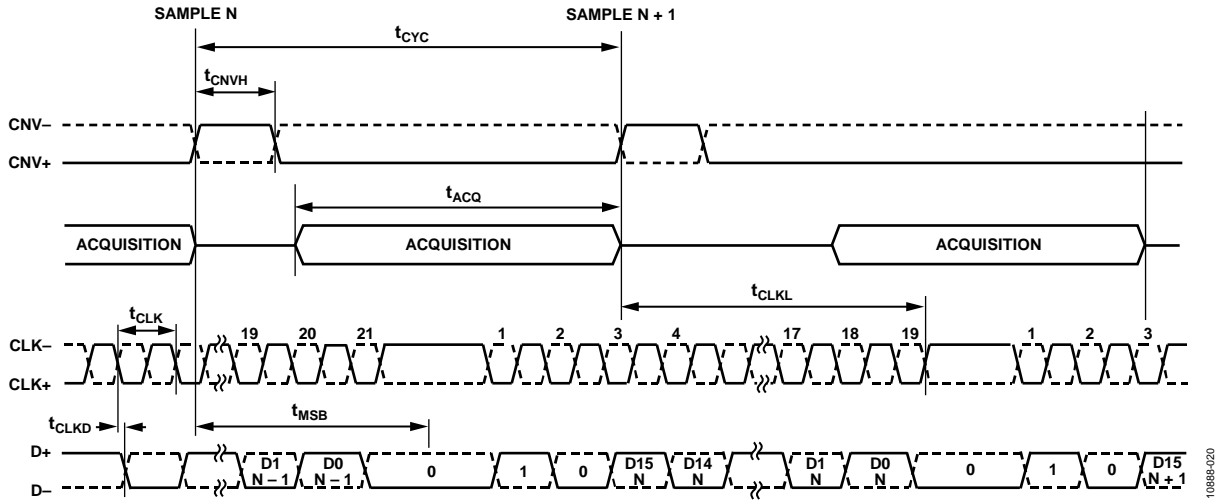

Figure 37. Self-Clocked Interface Mode with Extra Clock Pulse Timing Diagram
When the self-clocked interface mode is used, the AD7961 also allows the user to provide an extra (19th) clock pulse to see a guaranteed 0 state at the end of the frame, as shown in Figure 37. After t_{MSB} has elapsed, the first bit of the header sequence, 0, automatically appears on D± and the remaining two bits of the header, 10, are then clocked out by the first two CLK± falling edges at the beginning of the next sample. This header (010) is used to synchronize D± of each conversion in the digital host because, in this mode, there is no clock output synchronous to the data (D±) to allow the digital host to acquire the data output.